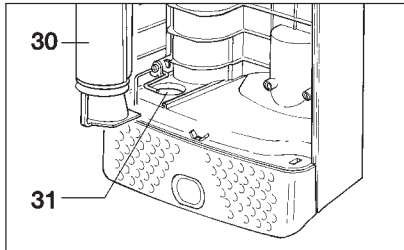

Figure 8
## Changing the Micro-Hygiene Filter - Figure 8
3. Microfilter not properly inserted.	3. Lift safety lever and insert filter with vertical plastic ridge on filter facing you (see pg. 8, figure 8).